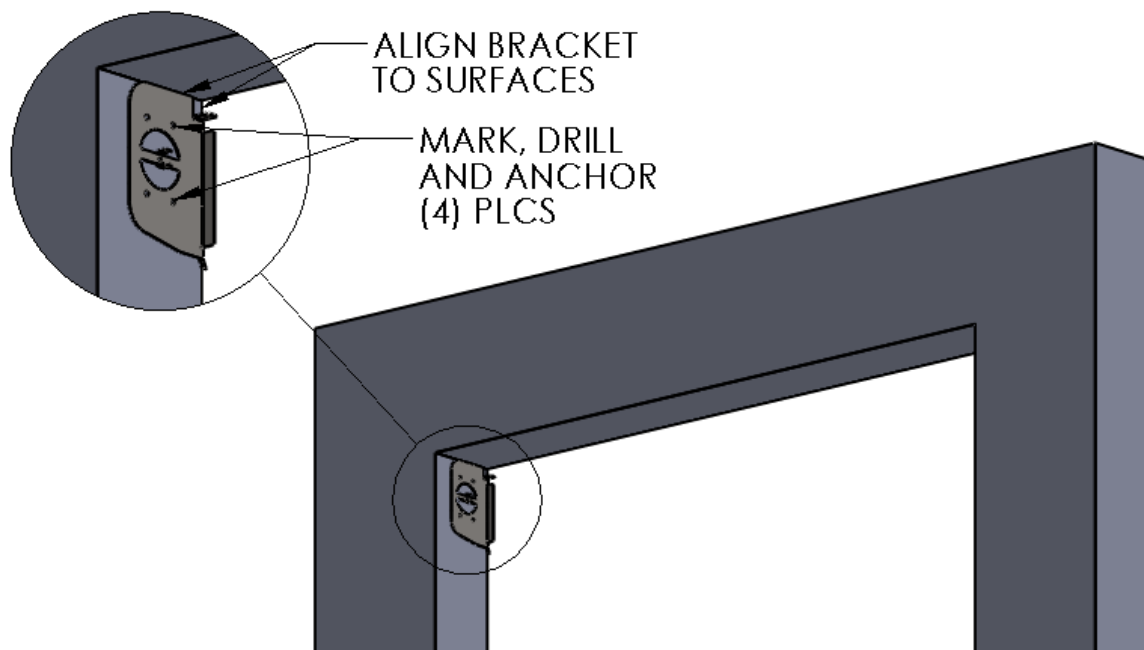

Figure 1 LOCATE & INSTALL L.H.HEADER MOUNTING BRACKET
1. At the upper Left of the opening, use the L.H. Header Mounting Bracket to transfer the hole locations to the mounting surface, and install this bracket. (Figure 1 LOCATE & INSTALL L.H.HEADER MOUNTING BRACKET)